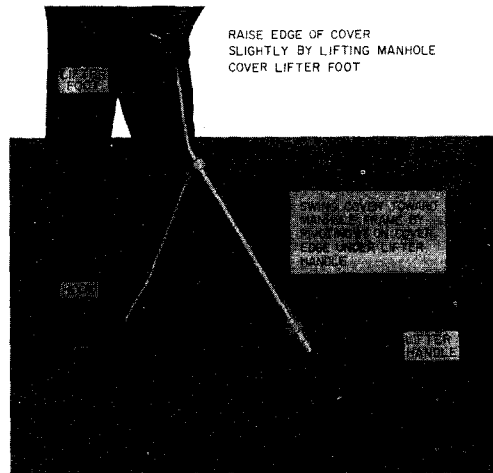

Fig. 42—Moving Cover to Manhole Frame
6.08 Engage the manhole cover lifter hook under the rim of the cover and raise the foot of the lifter until the end of the handle rests on top of the cover as shown in Fig. 42. Then, holding the lifter foot, raise the cover slightly and swing it toward the manhole frame while pivoting it on the cover edge directly under the lifter handle.